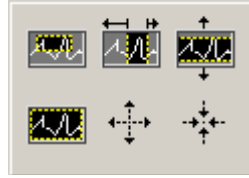

Figure 7: Zoom
- Zoom — Zooms in and out of the display. click the Zoom button and select from the following options, clockwise from the top left, to zoom in and out of the graph (see Figure 7):